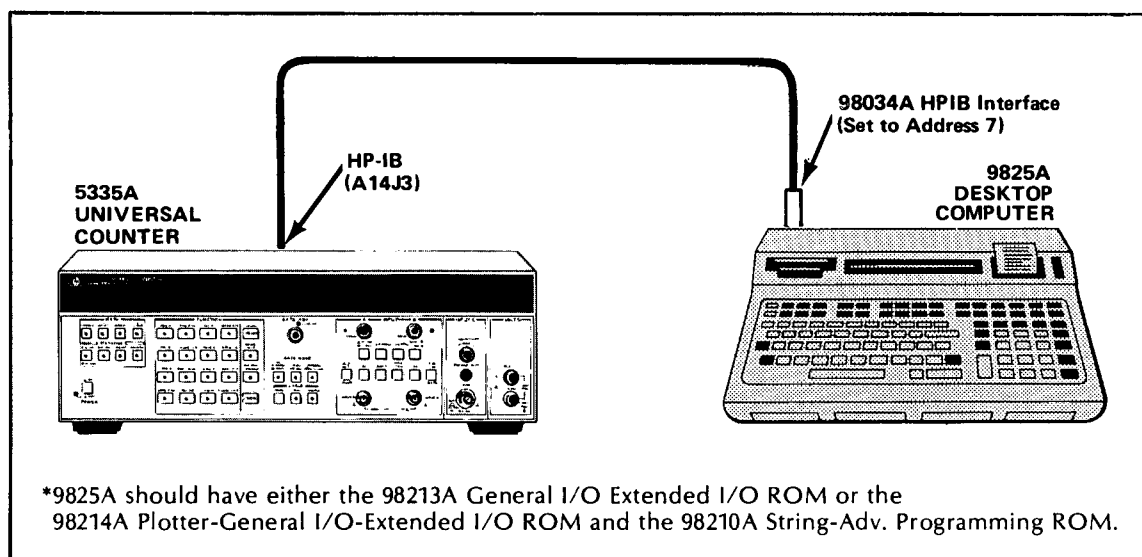

Figure 4-4. HP-IB Verification Set-Up
4-13. To perform the verification, set up the 5335A as shown in *Figure 4-4*, and set the 5335A rear panel address switches to address 03.
1. Set up the 5335A and the 9825A as shown in Figure 4-4.